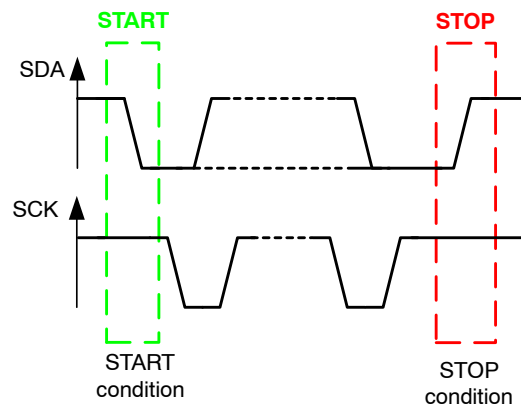

Figure 24. START and STOP Conditions
Within the procedure of the I²C-bus, unique situations arise, which are defined as START (S) and STOP (P) conditions (See Figure 24).